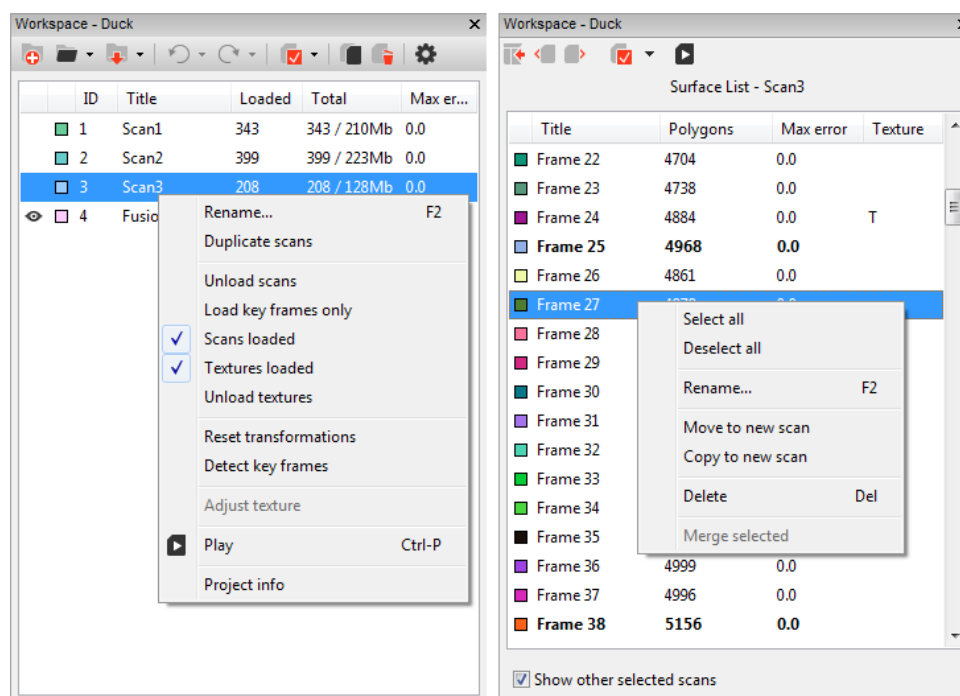
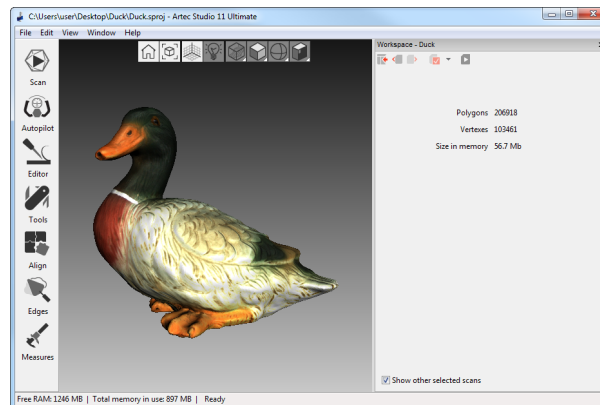

Figure 8.2.: *Workspace* panel: scan list (original view) on left and surface list on right.
Figure 8.3.: Single-frame scan (model) representation.
After each scanning session, Artec Studio saves the sequence of frames as a separate scan. The list of all scans for a given project appears in the *Workspace* panel (see Figure 8.2).
Double-clicking the scan name opens the *Surface List* panel, revealing all frames in that scan (see Figure 8.2., right). If the scan has only one frame, a panel with frame data will appear in place of a list (see Figure 8.3.).
2. Click `RMB` and select *Move to new scan* (Figure 8.2., right).